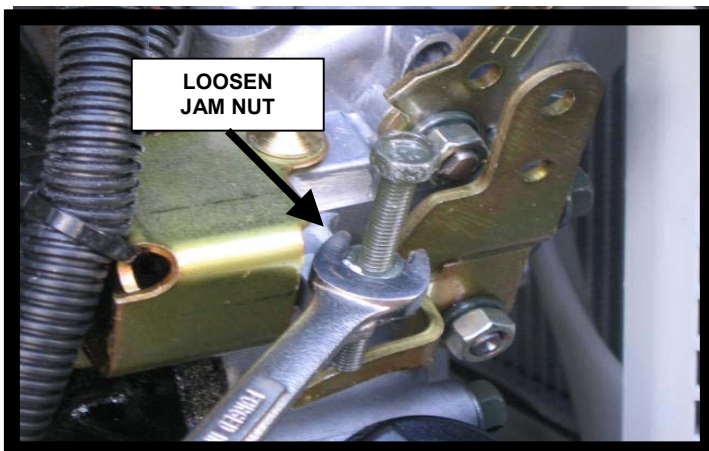

FIGURE 2 **LOOSEN JAM NUT**
2. Loosen the jam nut of the engine speed adjustment screw by turning the jam nut in a counter clockwise direction for approximately three (3) turns (Figure 2).